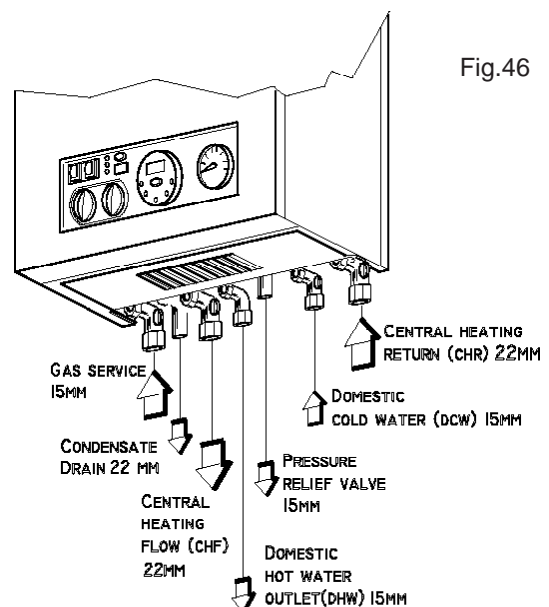

Fig.46
Remove plastic caps from boiler connection and fit valves as per Fig. 46 using washers provided.
5.9 GAS CONNECTION (Fig. 46)
5.10 CENTRAL HEATING CONNECTION (Fig. 46)
5.11 DOMESTIC HOT WATER (Fig. 46)